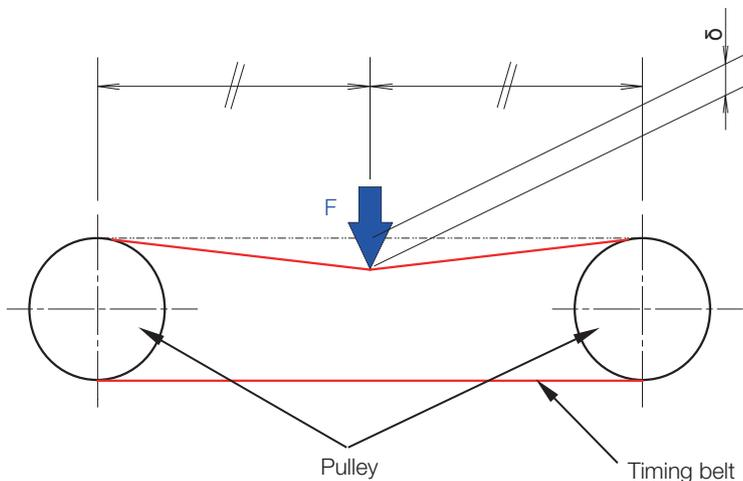

Fig. 12 Adjusting the belt tension in motor wrapping
- Adjust the belt tension of the motor wrap section when installing the motor. Mount the motor so that the deflection of the belt is δ by pushing the center of the belt with pressing force F . (See Fig. 12)